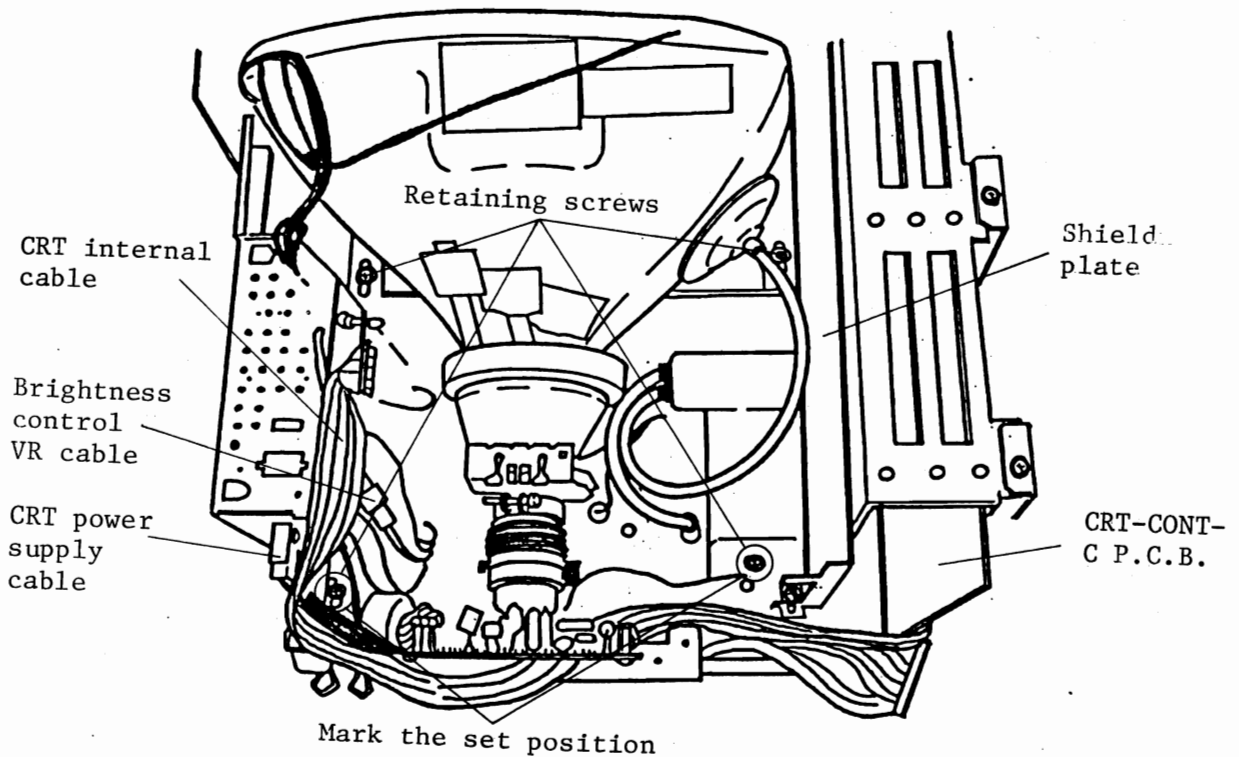

Fig. 5.2.8
- ① Remove both rear and upper covers as in paragraph 3.1 of chapter 3.
- ② Disconnect brightness control VR, CRT internal cable and CRT power supply cables from CRT unit in Fig. 5.2.8.
- ③ Set position mark of CRT unit.
- ④ Remove four retaining screws of CRT unit. (Fig. 5.2.8)
- ⑤ Cut off the band binding key internal cables which are fixed at the front of CRT unit, and take out the fan cable.
- ⑥ Remove CRT unit from MAIN UNIT, then remove the shield plate from CRT unit by two retaining screws.
- ⑦ Fit shield plate to spare CRT unit.
- ⑧ Mount spare CRT unit to MAIN UNIT, and tighten retaining screws while aligning it to the marked set position.
- ⑨ Connect all disconnected cables.